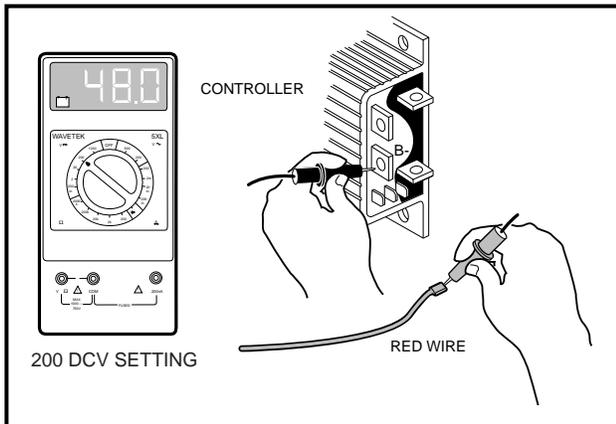

Figure 11-26 Test Input Voltage
- 3.3. Place multimeter (set for 200 volts DC) black probe (-) on B- terminal of controller (with 6 gauge black wire attached) and red probe (+) into terminal end of red wire removed from controller terminal 1. Multimeter should indicate full battery voltage with accelerator pedal pressed to floor (**Figure 11-26, Page 11-18**).